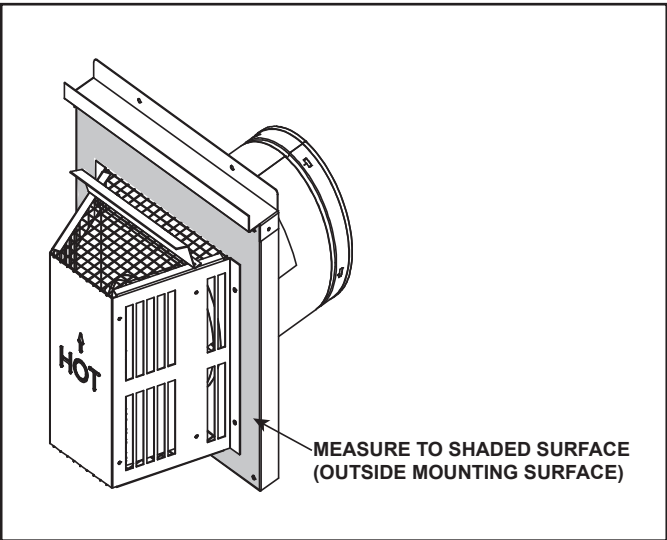

Figure 4.6 Measure to Outside Mounting Surface
- Horizontal terminations are measured to the outside mounting surface (flange of termination cap) (see Figure 4.6).